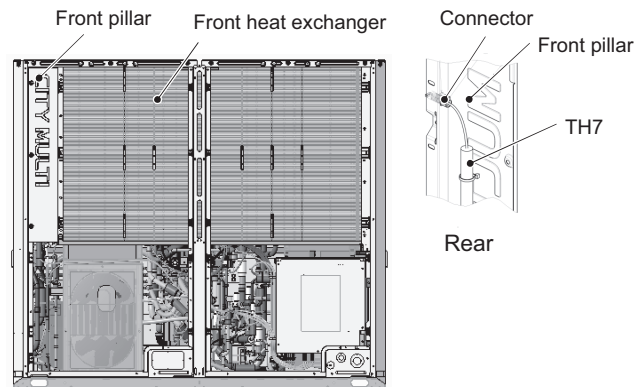

Figure 17
Removing the standard front heat exchanger (Figure 17)
- (15) Remove the front pillar by unscrewing the 7 screws. (See Figure 17.)
(16) Disconnect the TH7 sensor holder from the front pillar. (See Figure 17 Rear.)
(19) To remove the front heat exchanger, remove the screws on the front right pillar. (3 screws, Figure 17)